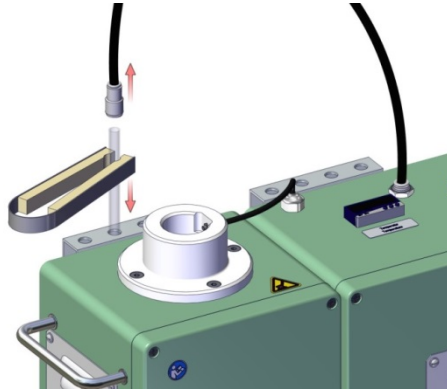

Figure 5.3.6
11. Place the hot Quartz Tube in the bracket tube holder at the left rear of the PGD-E until it is cool. (See Figure 5.3.6).